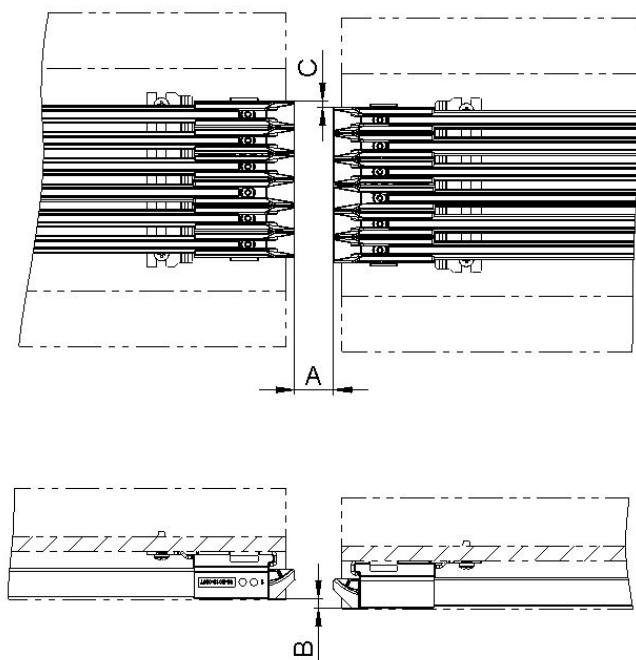

Fig. 46: Maximum offset for a transition
To ensure proper functioning of the energy transmission in the area of a switch or a jack, it must be ensured that the distance (A) between the opposing end caps is set so that no contact can occur between the two sides when the switch or the jack is moved. Contact between the opposing end caps will impair energy transfer. Conductix-Wampfler tolerates a maximum end cap gap of 5 mm. In the case of angled cuts, the gap dimension of 5 mm can be increased to up to 10 mm. In order not to impair the function of the energy transmission system, the tolerance dimension B must be set to max. 0 to -1 mm and the tolerance dimension C to ± 1 mm (see Fig. 46).